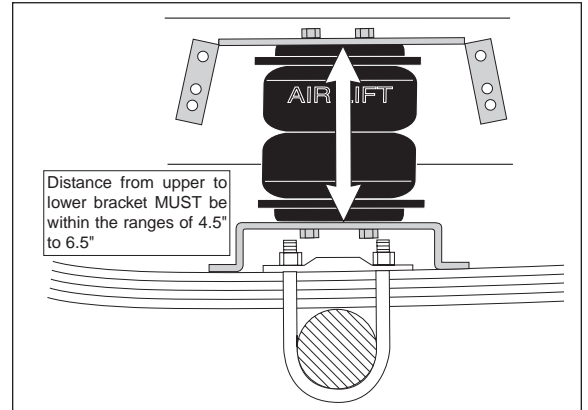

Figure 5
1. Set the assembly on the leaf spring over the axle. The upper and lower brackets must be positioned with 4.5" to 6.5" between the brackets at normal ride height (Figure 5).